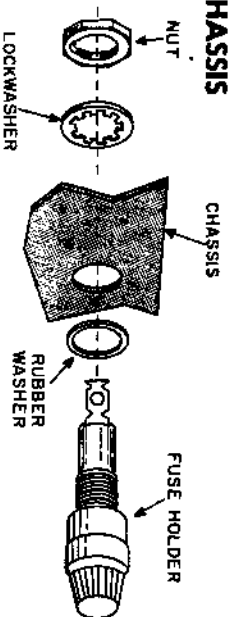

FIGURE 4. FUSE HOLDER MOUNTING
- 11 Fuse holder. Position with the terminals as shown. Mount as shown in Figure 4.